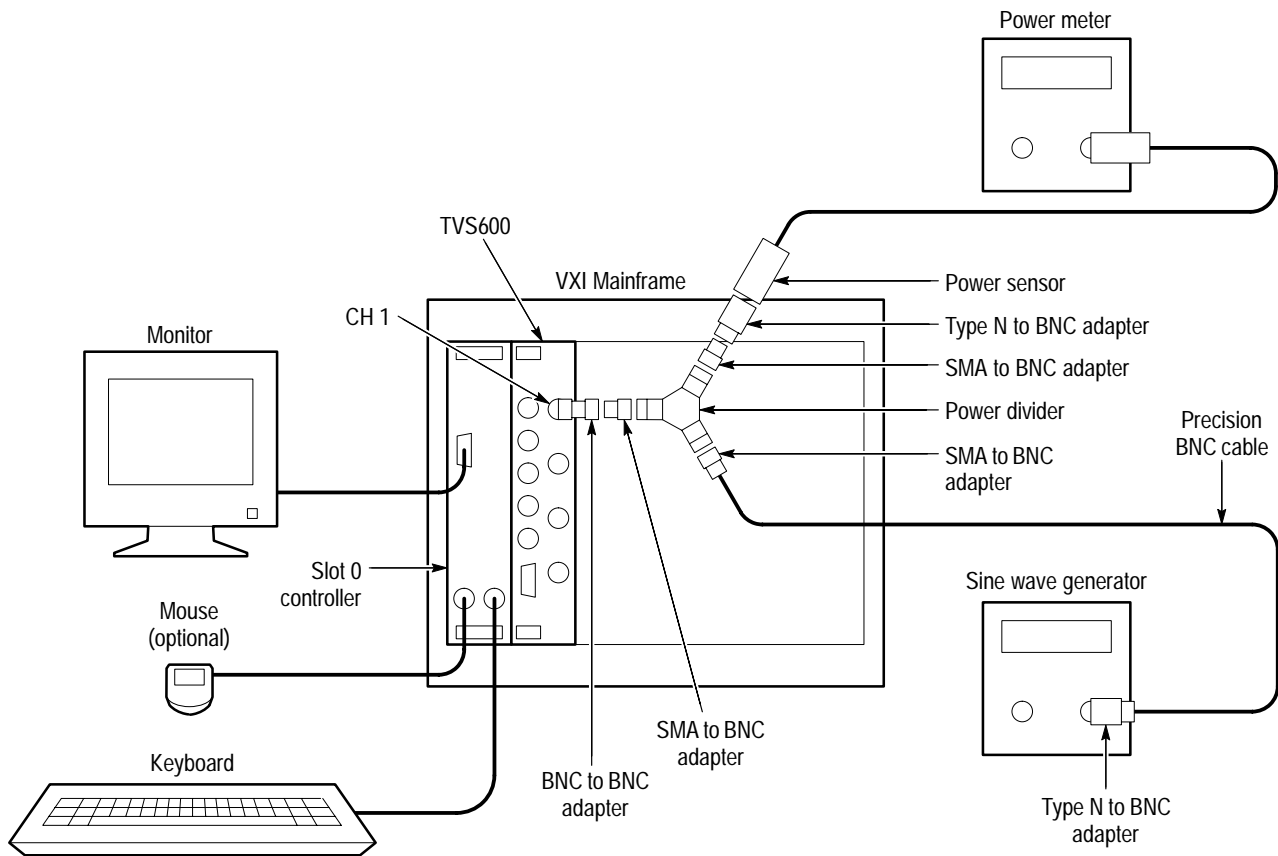

Figure 4–14: Using the power meter to monitor the output amplitude of the sine wave generator
**Initial Test Setups.** As you run the PV tests, on-screen instructions describe the test equipment connections required to perform each test. Figures 4–8 through 4–13 provide detailed connection diagrams for the initial test equipment setups. After the test begins, you will then make changes to test equipment settings and connections when they are requested by the on-screen instructions.
**Leveling the Sine Wave Generator with the Power Meter.** The VERT\_BANDWIDTH test requires you to adjust the frequency of the sine wave generator while maintaining a constant output amplitude. If your sine wave generator can produce a constant signal amplitude that is within 0.35 dB over the test frequency range (10 MHz to 1005 MHz for TVS625 and TVS645) then you do not need the power meter. Otherwise the power meter and power divider are necessary to adjust the sine wave generator output amplitude for a constant level. Figure 4–14 shows how to connect the power meter to the system when the signal generator output is not leveled to within 0.35 dB.
1. Connect a printer to the Slot 0 Controller as shown in Figure 4–15.